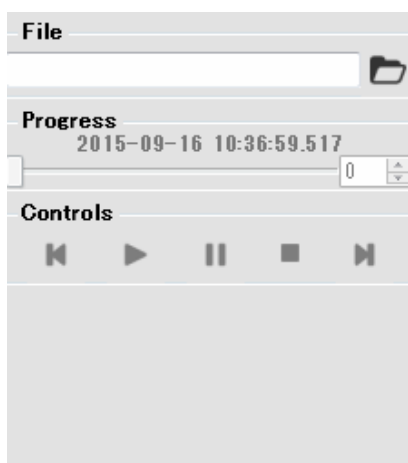

Figure 7-57 Log player window 2
- 4 Select the log data file for re-playing (Figure 7-57).